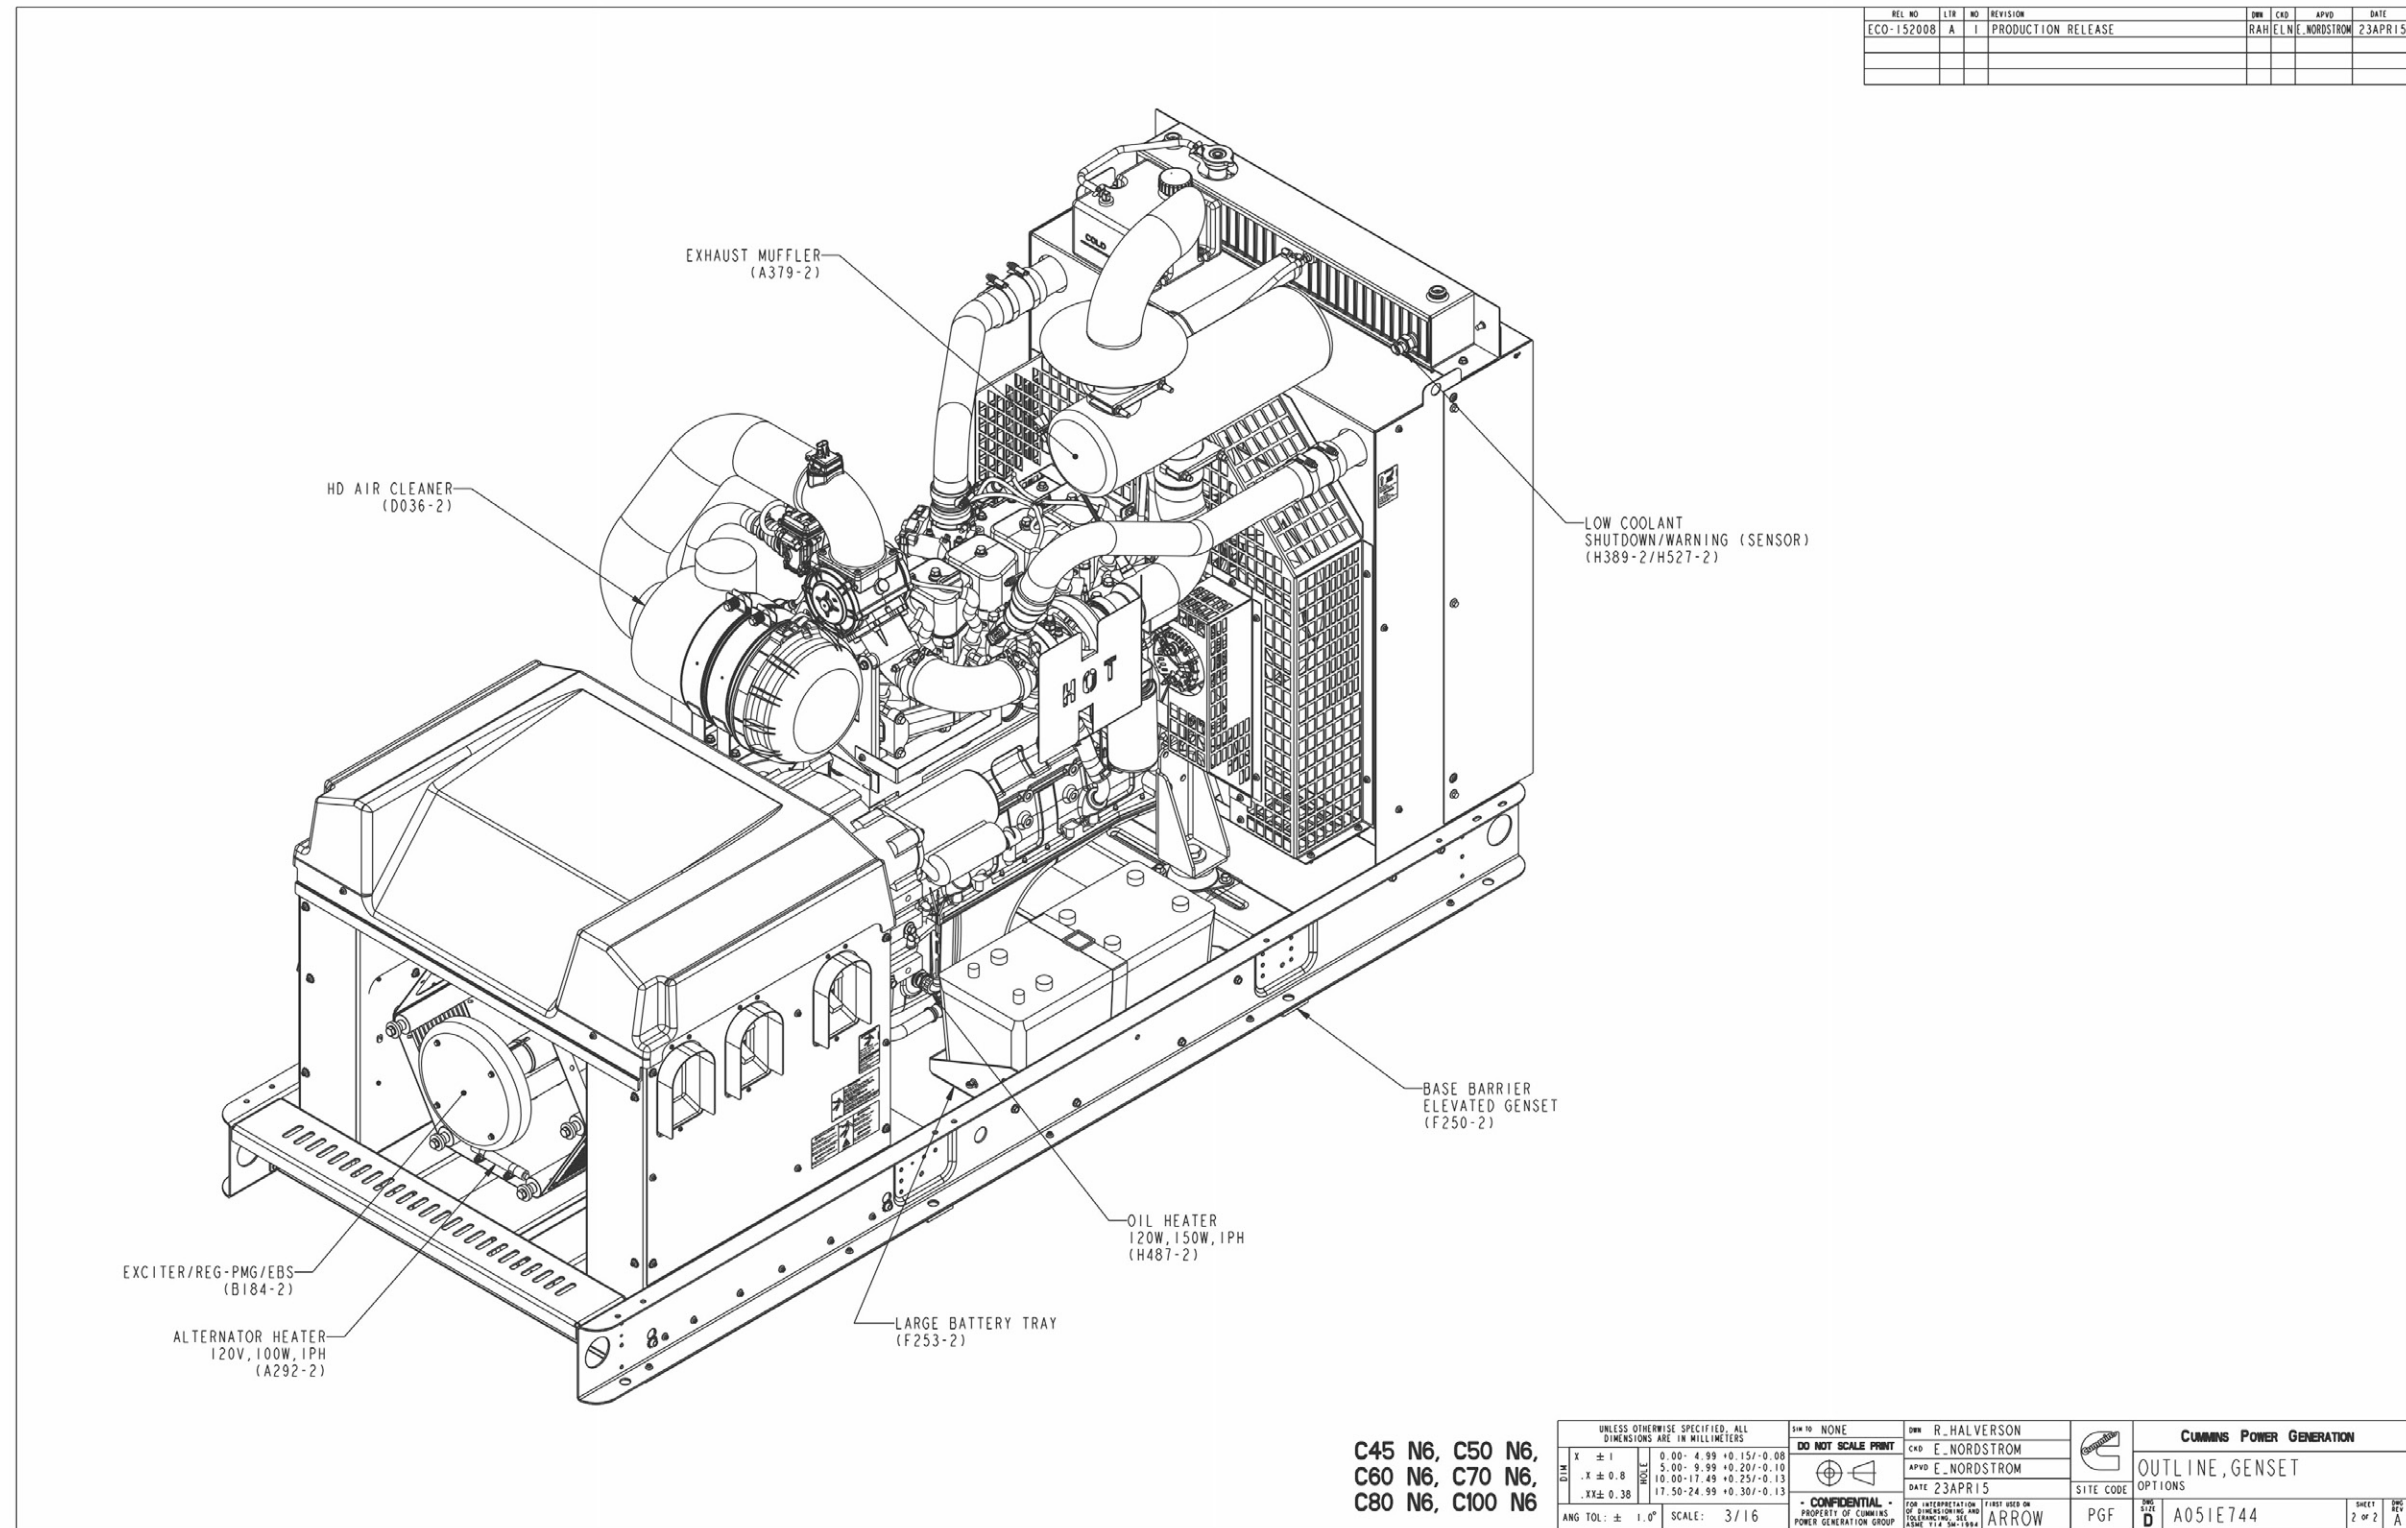

FIGURE 40. GENERATOR SET OUTLINE, ACCESSORIES (SHEET 2 OF 2)
- Figure 40. Generator Set Outline, Accessories (Sheet 2 of 2) 112